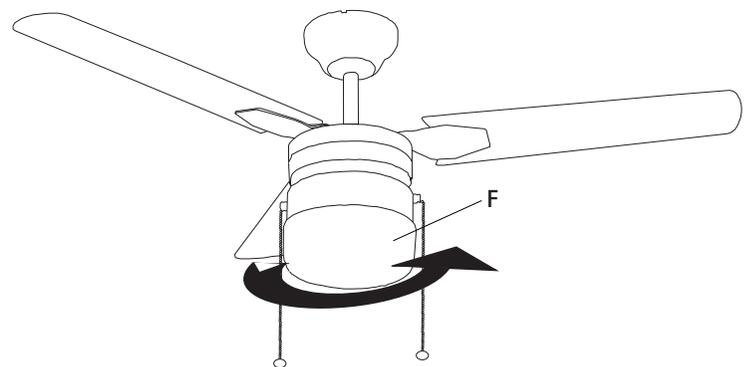

Figure 16
- Install the lamp shade (F) into the lamp-fitter by a gentle clockwise twist-and-lock (Figure 16).